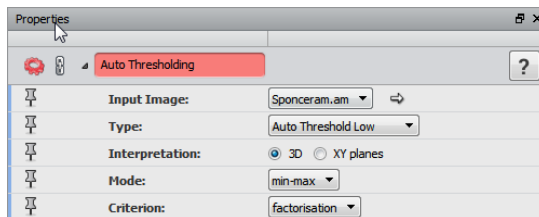

Figure 24.5: Auto Thresholding Module Configuration
2. Separate the void of the material using an *Auto Thresholding* module. Set the Type port to *Auto Threshold Low*. It will create two outputs `Sponceram.info` and `Sponceram.labels` (see Figure 24.5).